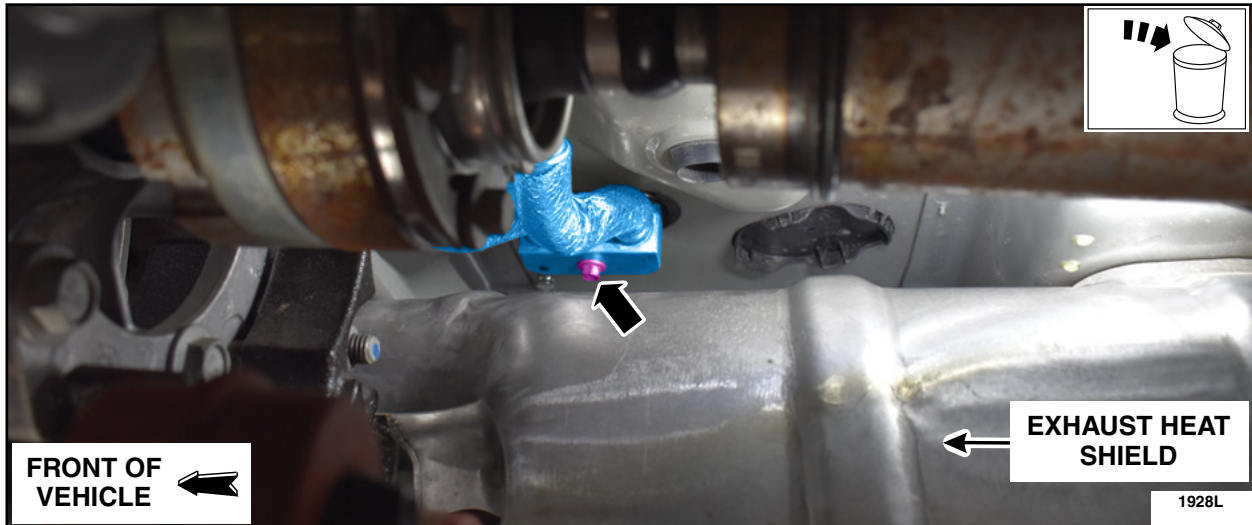

FIGURE 12
14. Remove the retainer and short portion of the rear heater coolant line located on the right hand (RH) side of the vehicle above the exhaust heat shield directly under the front passenger seat. Discard the rear heater coolant line. The bolt will be reused on installation. See Figures 12 and 13.